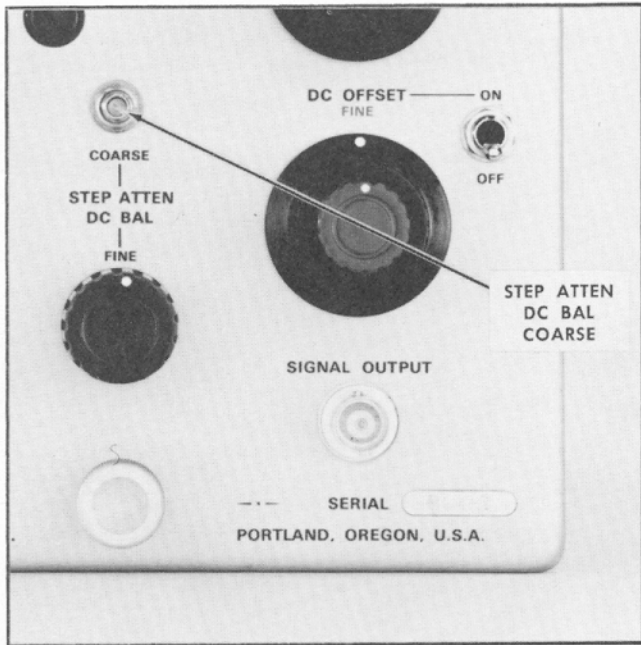

Fig. 6-7. Location of step 1 adjustment.
- c. Adjust the STEP ATTEN DC BAL COARSE control (see Fig. 6-7) so the trace is positioned to graticule center.